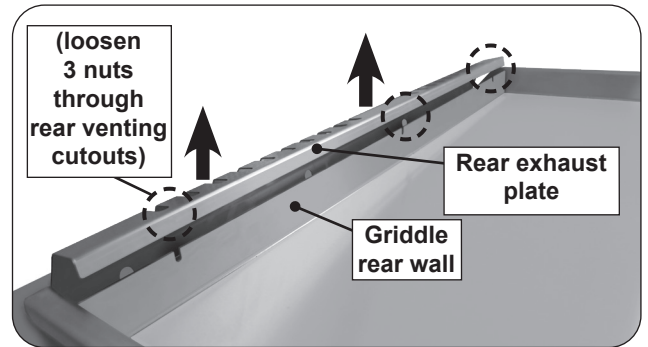

Fig. 39-1 Rear exhaust plate removal
2. Remove the rear exhaust plate by loosening the three nuts (no need to remove nuts completely), then lift the panel up from the griddle top (see Fig. 39-1).